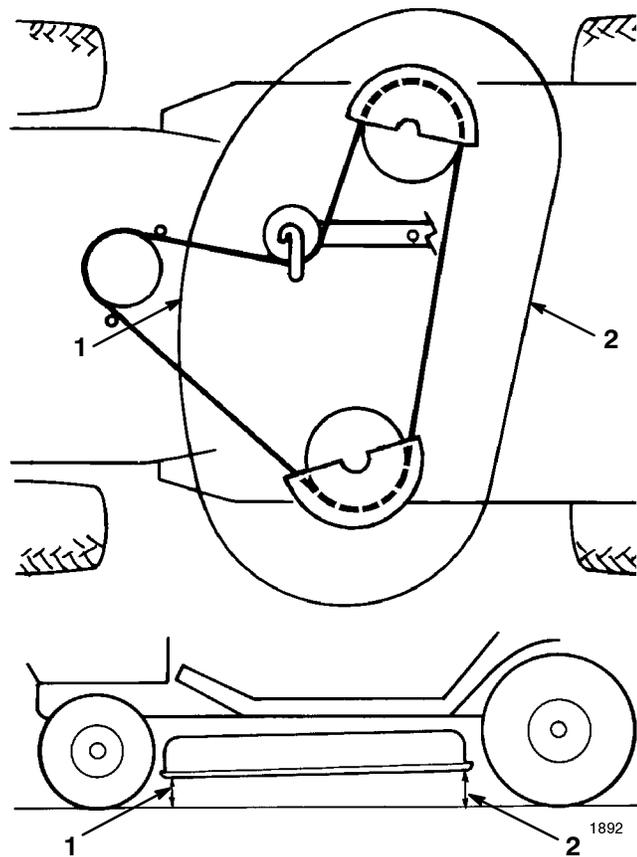

Figure 51
- Check the front to rear slope by measuring between the bottom of the mower (front center and rear center) and the flat surface (Fig. 51). If the front is not within a range of 1/8"–3/8" (3.5mm–10.5mm) lower than the rear, an adjustment is required.